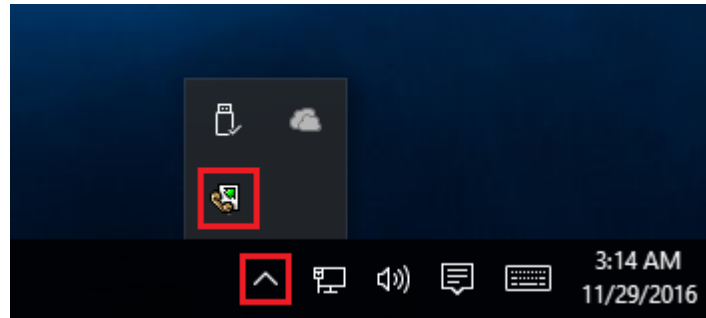

Fig. 6.1.2 Systray - panel near clock
- **Start in minimized state** - at start Log Monitor & Export will automatically put its icon on panel near clock (SysTray fig. 6.1.2);